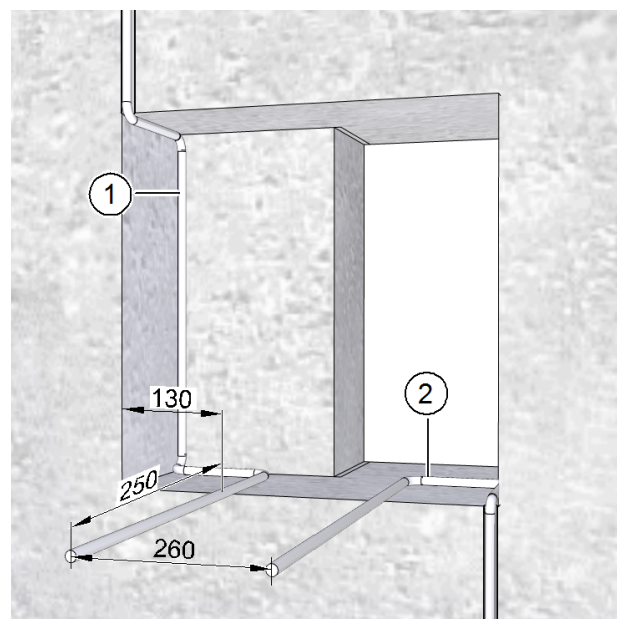

Fig. 9: Running the connecting cables, dimensions in millimetres
- ▶ Run the mains cable (item 1 in Fig. 9 on page 14) and the control cable, if required (item 2 in Fig. 9 on page 14). The cables should extend roughly 250 mm beyond the wall.